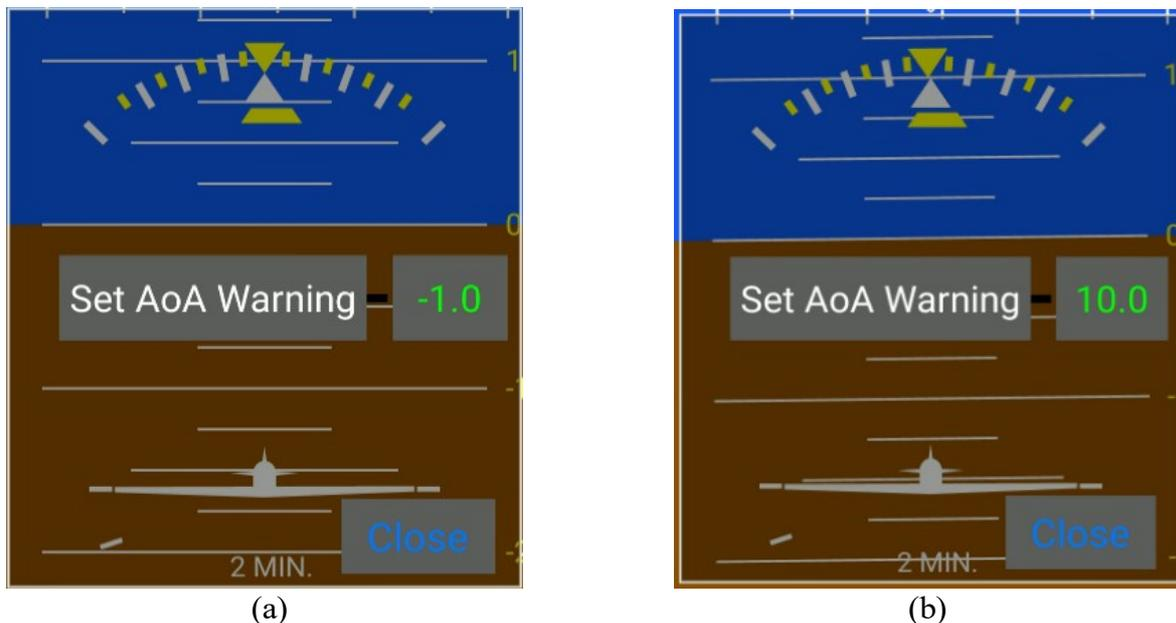

Figure 7: (a) Uncalibrated FlySense device. (b) Calibrated FlySense device (i.e. stall angle has been determined at 12° and warning angle has been set at 10°).
Step 1: Click on EFIS TA application “MENU” → “Miscellaneous” → “Calibrate AoA” option. This will bring up the window shown below in Figure 7(a); a value -1.0 in the mid-right part of the window signifies uncalibrated FlySense AoA PRO.
Step 2: While in flight mode, gradually reduce aircraft speed, until stall buffet is reached and press the “Set AoA Warning” button. This will automatically determine and store the aircraft stall angle and will set the warning angle at a value of two degrees (2°) less. In the example case shown above in Fig 7(b), stall angle has been determined to be 12° and the warning angle has been set to 10°.